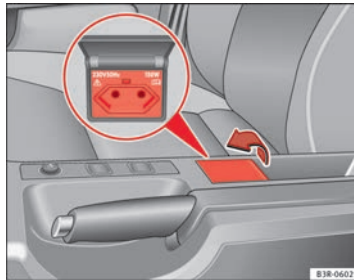

Fig. 135 Centre console:
- Lift the cover to open ⇒ Fig. 135.